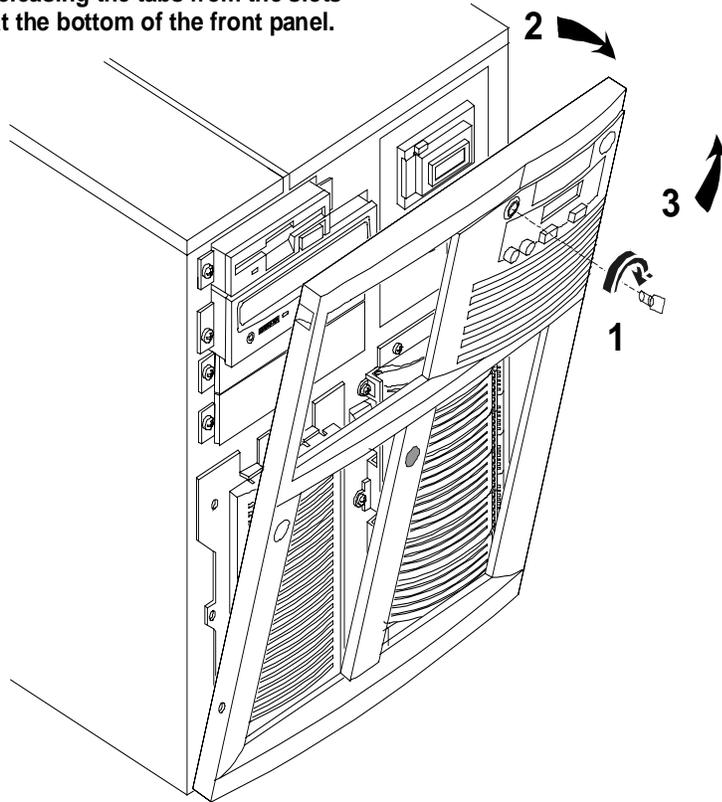

Figure 3-7. Removing the HP NetServer LH 6000 Bezel
2. To remove the bezel, pull it forward until it unsnaps, then lift the bezel forward and upward from the chassis face (action 2 and 3 of Figure 3-7).